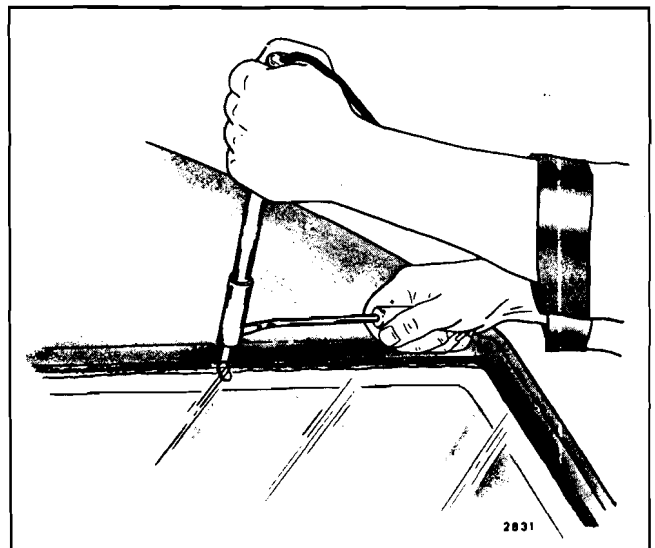
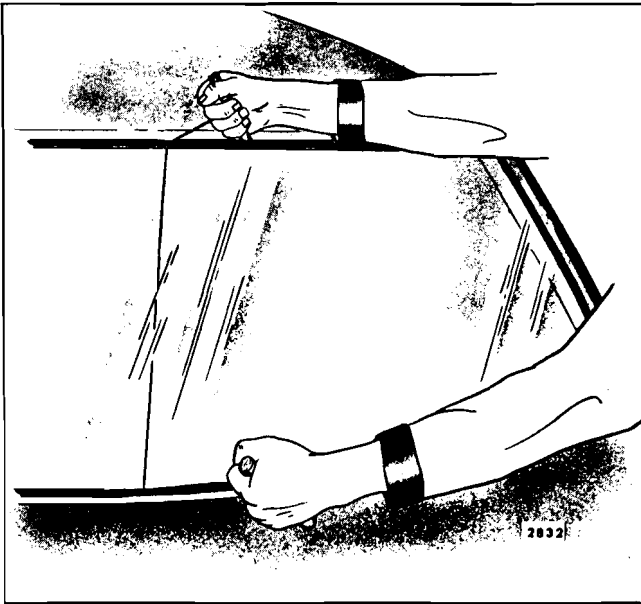

Fig. 4-3—Electric Hot-Knife Removal Method
Fig. 4-4—One Man Wire Removal Method
NOTE: Optional methods of glass removal which require only one man are: (1) the electric hot-knife (Fig. 4-3) and (2) pulling the cutting wire through upper and lower edges of glass simultaneously (Fig. 4-4). For the latter